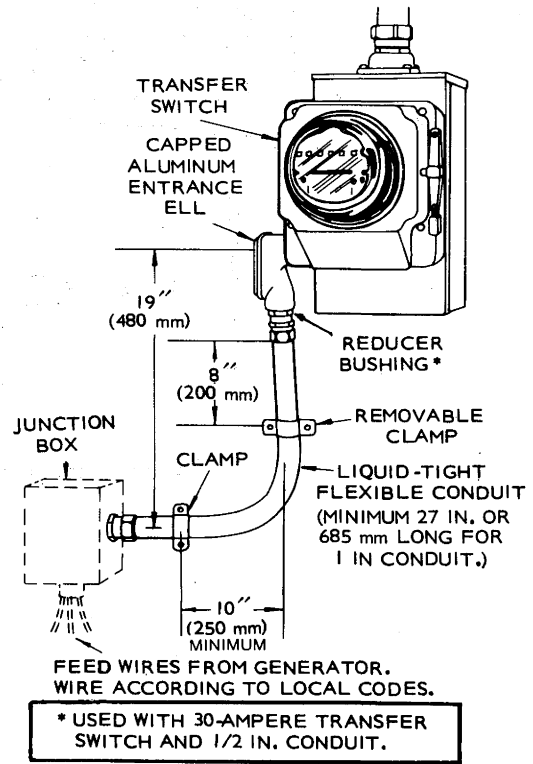

FIGURE 12
- Install an entrance ell in the opening on the left side of transfer switch (Figure 12).
- 12** A. Connect a reducer bushing to the entrance ell (Figure 12) for a 30-ampere transfer switch.
- C. Connect the other end of the flexible conduit to an approved junction box (for generator set connections). See Figure 12.